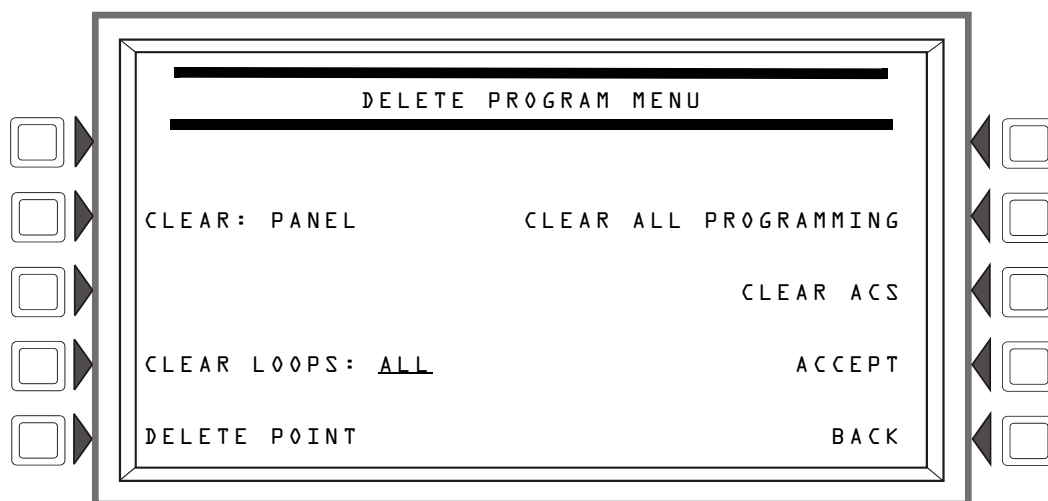

Figure 3.57 Delete Program Menu Screen
1. Use the Delete Program Menu screen (refer to Figure 3.57) to clear any applicable programming from the panel. For example, if loops one and two are to be autoprogrammed, clear the programming that exists by entering **1+2** at the Delete Program Menu screen.